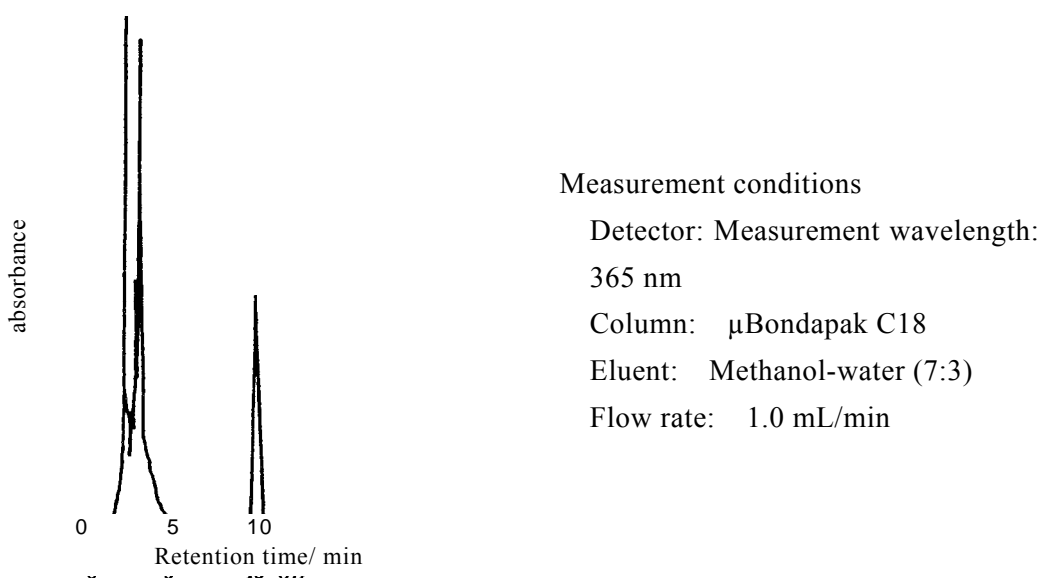

Fig. 8.1.12-2 A chromatogram of nicarbazin added to a formula feed for starting chicks (The arrow indicates the peak of nicarbazin)
- [4] The absorption curve of nicarbazin standard solution is shown in Fig. 8.1.12-1.
[8] An example of chromatogram of nicarbazin extracted from a formula feed is shown in Fig. 8.1.12-2.